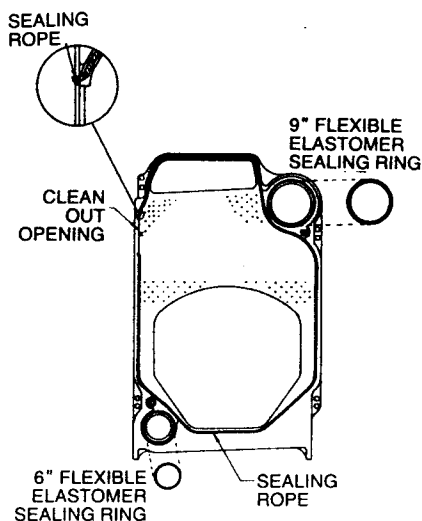

FIGURE 2
3. Position the 1/2" by 149" long sealing rope on the section by starting at the cleanout opening (see FIGURE 2). Be sure the sealing rope is well seated at all points in the sealing grooves so that a gas-tight seal will be maintained between the sections. **DO NOT APPLY** adhesive to the opposing sealing grooves of the next boiler section.
4. Wipe the port openings with a clean rag to remove any grit from the machined surfaces. Do not use any cleaner that contains a petroleum base distillate (oil) to clean ports. Place the 9" and 6" elastomer sealing rings in the appropriate port openings (see FIGURE 2).